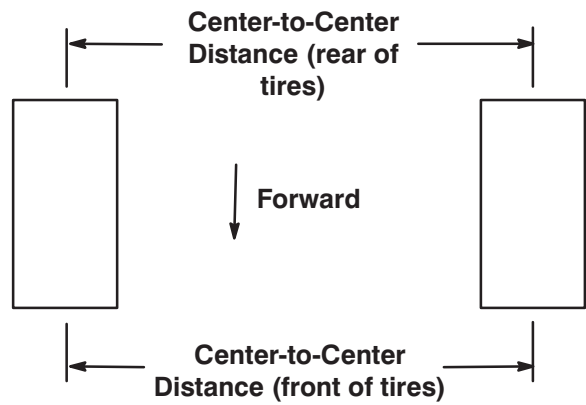

Figure 27
2. Measure the distance between both of the front tires at axle height (at the front and rear of the wheels) (Fig. 27). The front measurement must be equal to the rear measurement $\pm 1/4$ in. (6.4 mm).